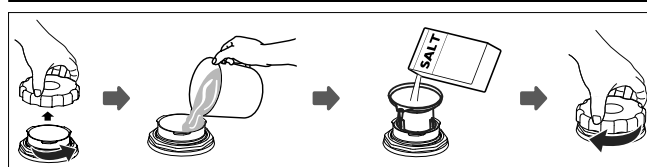

Fig. 13 – Filling with salt
- ▶ Remove the dish rack (6) and twist the lid off the salt container (11).
- ▶ Fill the salt container with approx. 1 l water before the first use (see **Fig. 13**).
- ▶ Use a suitable aid such as a normal household funnel to pour 130 g of dishwasher salt into the opening on the salt container (11). It is normal if water escapes from the salt container.
- ▶ Once the container has been filled, twist the lid clockwise to tighten (see **Fig. 13**).